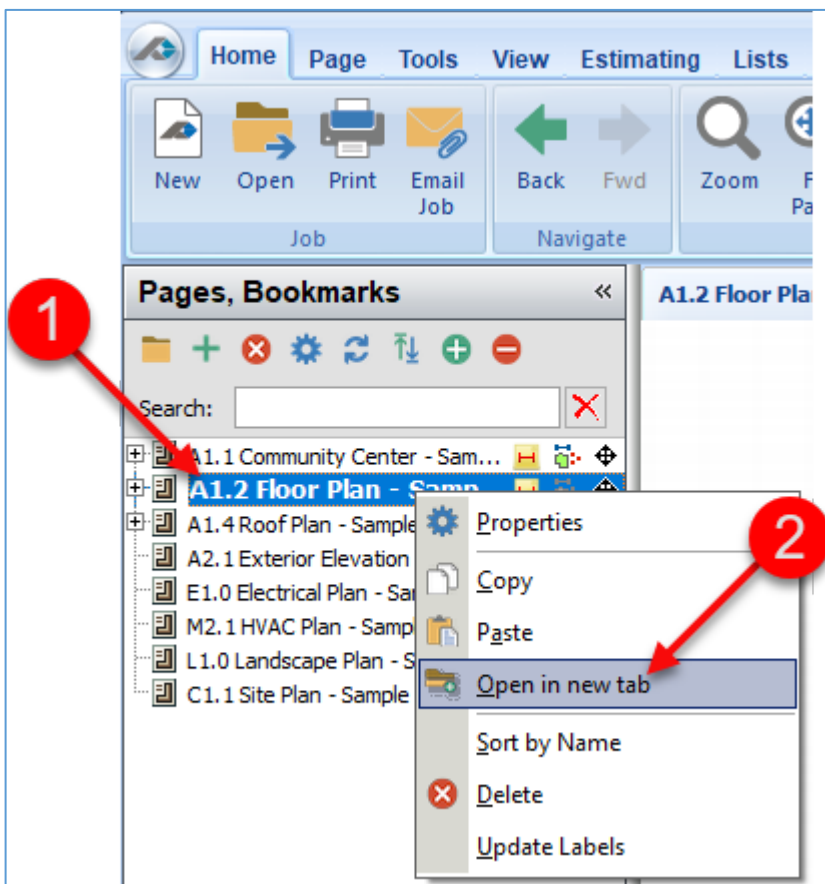

Figure 9-A
3. The A1.1 Community Center now appears on two separate tabs (Fig. 9-B). Clicking on either one of the tabs makes the clicked-on tab's page active. Clicking on a different page in the **Pages, Bookmarks** window opens the selected page in the active tab. Takeoffs may be performed on any active tabbed page.